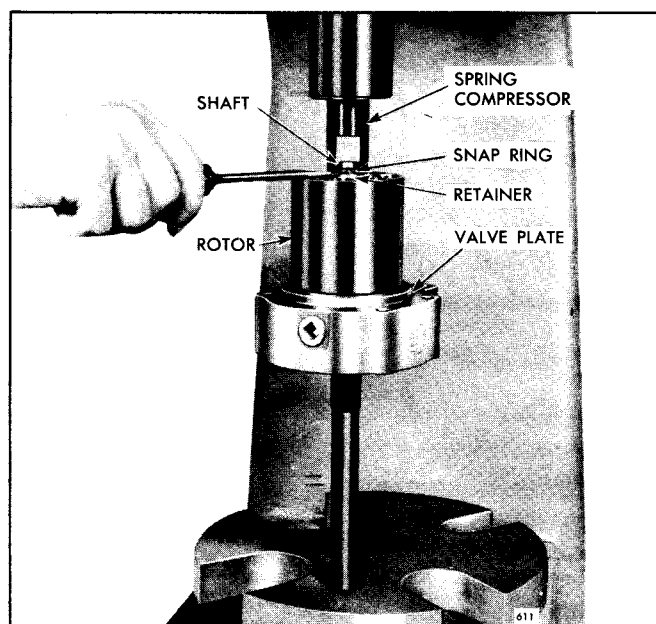

Fig. 5 – Removing Snap Ring from Starter Shaft
11. Locate the shaft in an arbor press and, using spring compressor J 7187, press on the edge of the retainer to compress the spring as shown in (Fig. 5). Then remove the snap ring.
4. With the assembly in an arbor press and using spring compressor J 7187 as shown in (Fig. 5), install the snap ring in the shaft ring groove.